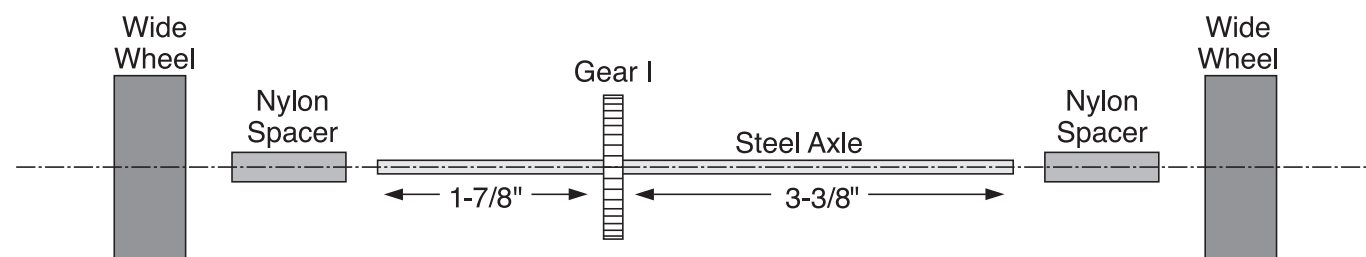

Figure 4
- Place the gear on a table. Insert one of the steel axles into the gear. Slide the gear $1-7/8"$ from one end of the axle. It should be $3-3/8"$ from the other end of the axle (Figure 4).
- Slide two nylon spacers onto the axle, one on each side of the gear (Figure 4).